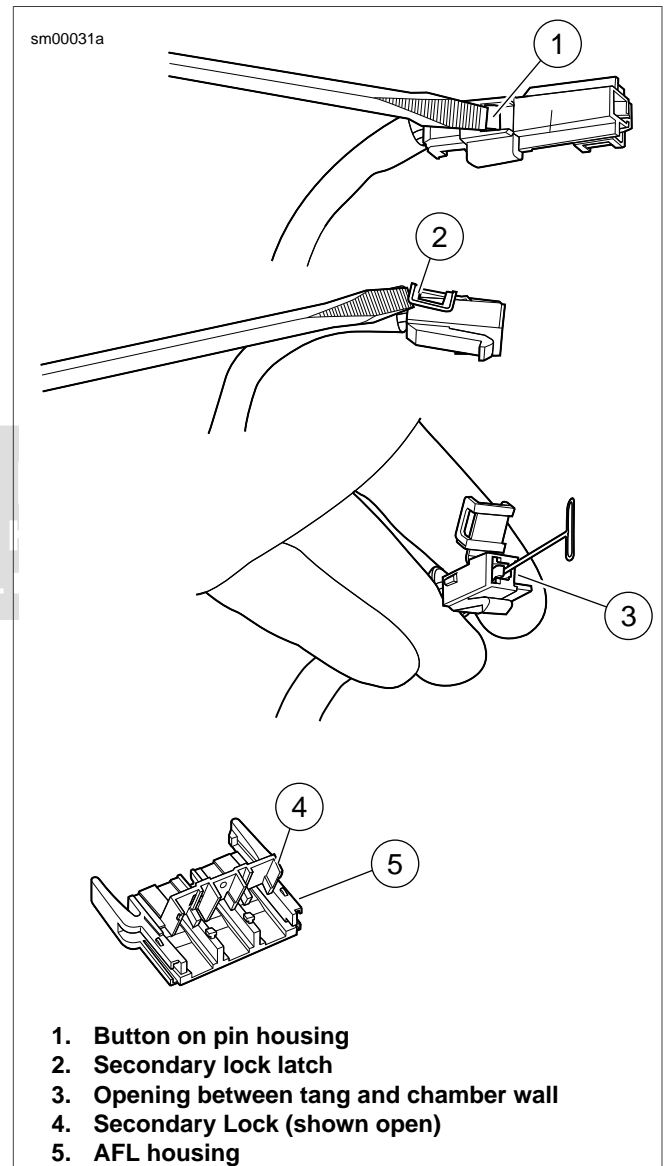

Figure A-41. 480 Metri-Pack Connector: Remove Socket Terminal
See Figure A-41. An AFL housing (5) is used on many ignition/light switches. The secondary lock (4) must be opened before removing the terminal from the housing.
See Figure A-41. Using small flat blade screwdriver, press button (1) on pin housing (red wire) side of the connector and pull apart the pin and socket housings.
1. See Figure A-41. Bend back the latch (2) slightly and free one side of secondary lock, then repeat to release the opposite side. Rotate the secondary lock outward on hinge to access terminal in chamber of connector housing.
2. On the mating end of the connector, note the tang in the square shaped opening centered next to the terminal. Gently insert the point of a stick pin or large safety pin into the opening (3) between the tang and the chamber wall until it stops.